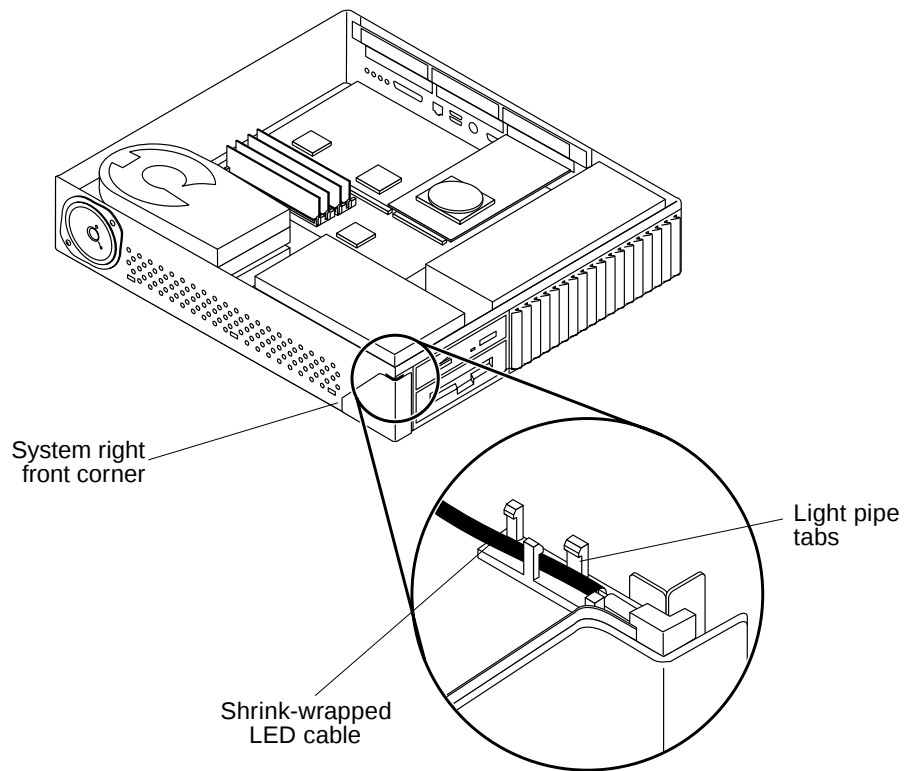

FIGURE 8-6 LED Light Pipe Detail
Note – Three tabs on the LED light pipe secure the LED to the right front corner of the chassis (FIGURE 8-6).
4. Use the tip of a small screwdriver to work the cable and LED free from the light pipe tabs (FIGURE 8-6).
1. **Position the LED near the tabs and light pipe at the corner of the system (FIGURE 8-6).**
2. **Use the tip of a small flatblade screwdriver to work the shrink-wrapped LED wires through the tabs (FIGURE 8-6).**